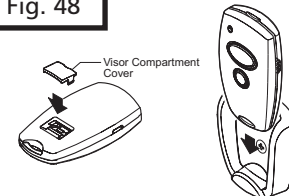

Fig. 49
### MULTIPLE TRANSMITTERS: (Fig. 49)
- Connect the transmitter with active code to the new transmitter using the programming connector. (Fig 49)